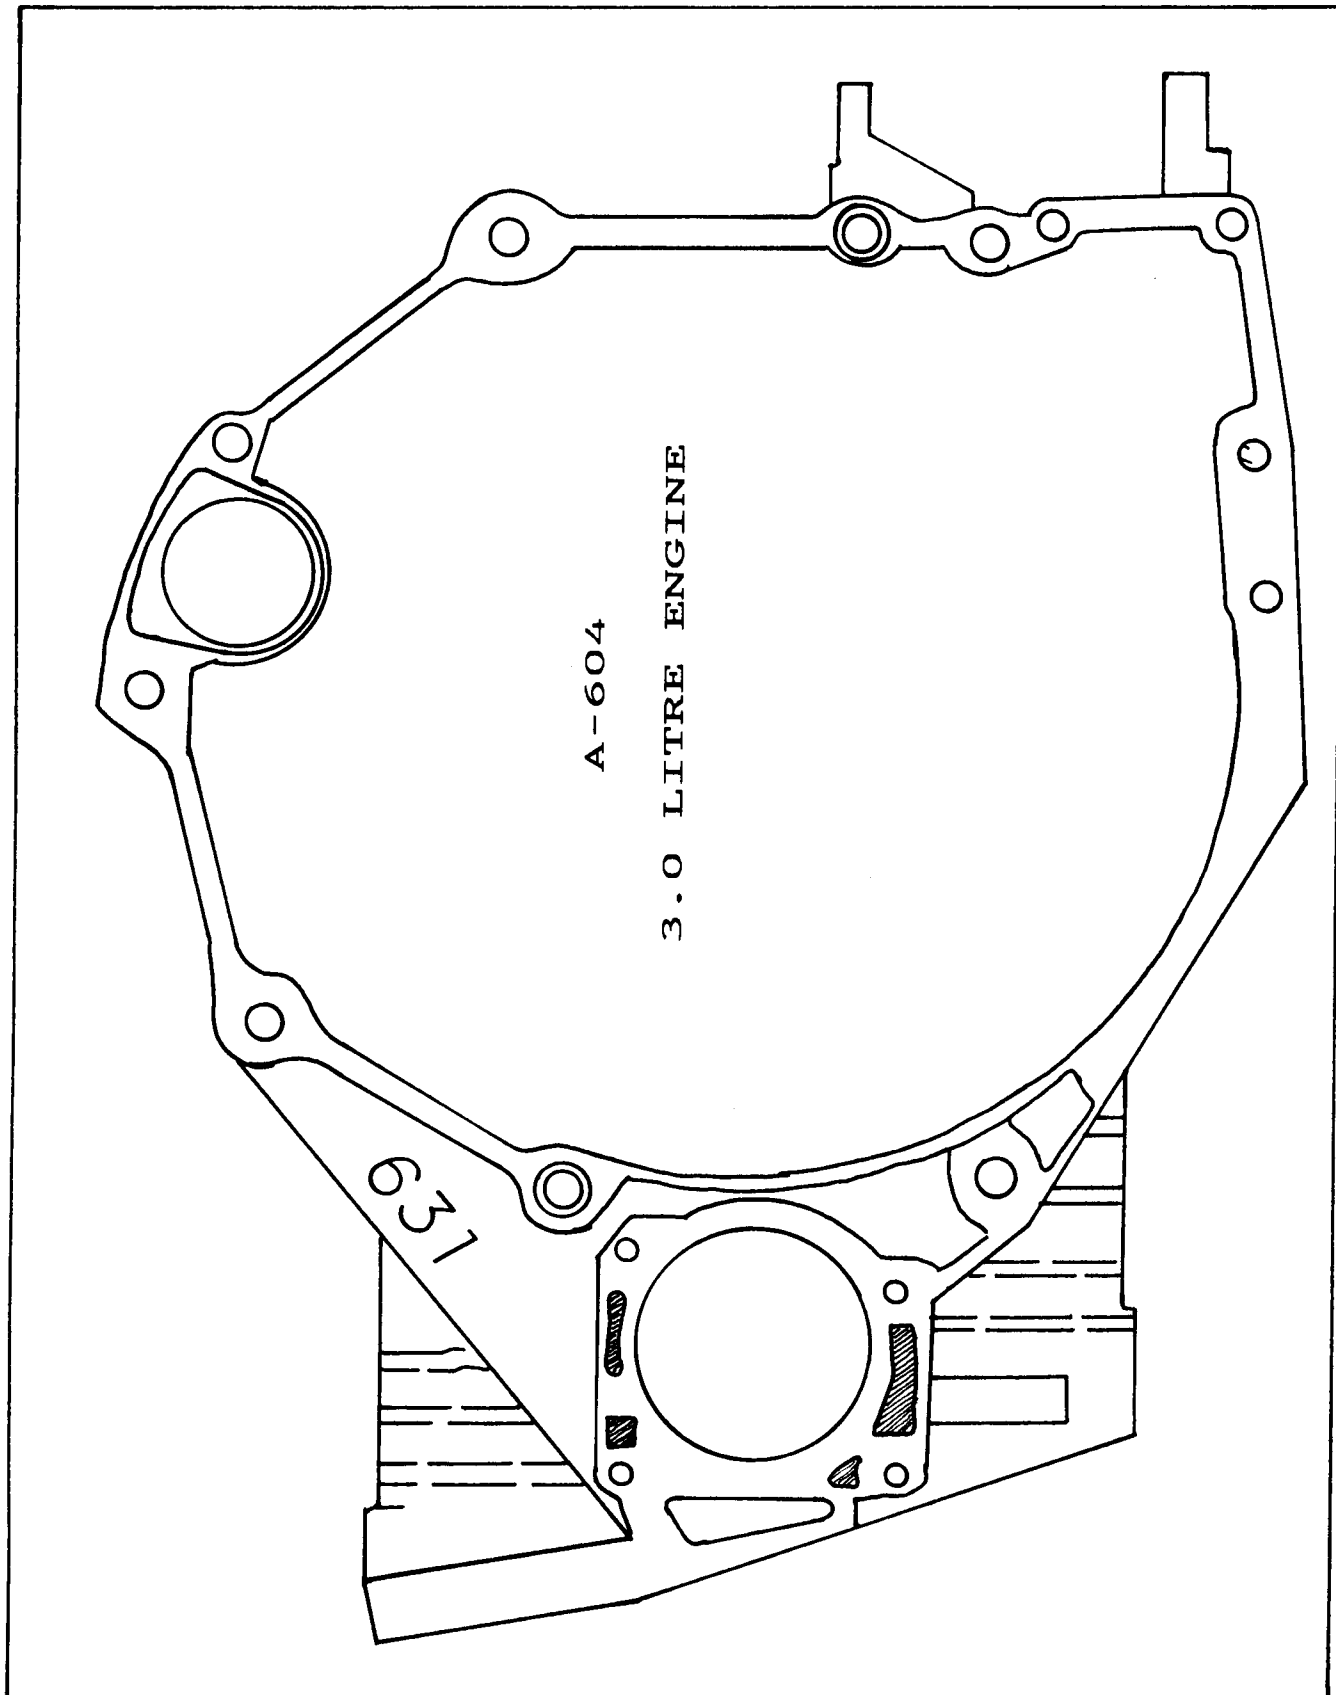

Figure 10
- For the 3.0 Litre Bell Housing pattern, refer to Figure 10.